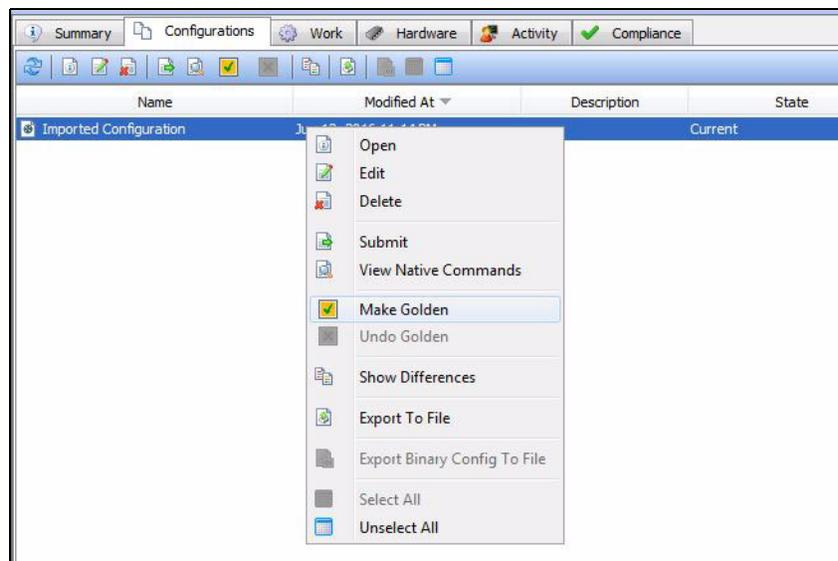

Figure 4-10 Setting a Golden configuration
1. In the same realm that you created the RAD, FTP resource, and Authentication resource, create a network resource with the same name as shown in Figure 4-10.
5. Select the current configuration and set it as a “golden” configuration by right-clicking the configuration and selecting **Make Golden** from the pop-up menu, as shown in Figure 4-10.